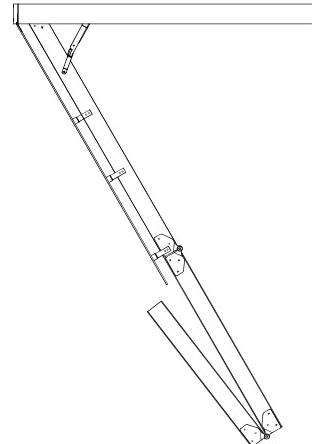

Figure 10
- Make sure you open the folding aluminum attic ladder door completely so that the force of the Hydroneumatic Cylinder will not try to close the folding aluminum adder door (see Figure 10).